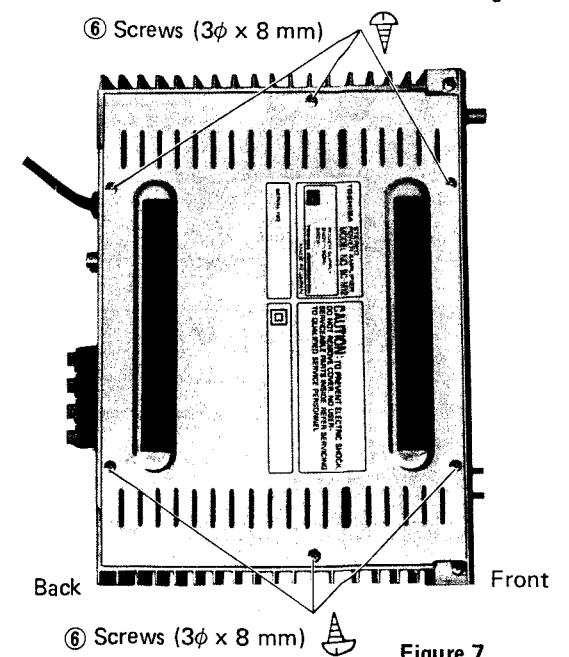

Figure 7.
1. Remove the six BID tapping screws ⑥ (3φ x 8 mm) on the bottom plate and the bottom plate can be removed from the main chassis as shown in Figure 7.